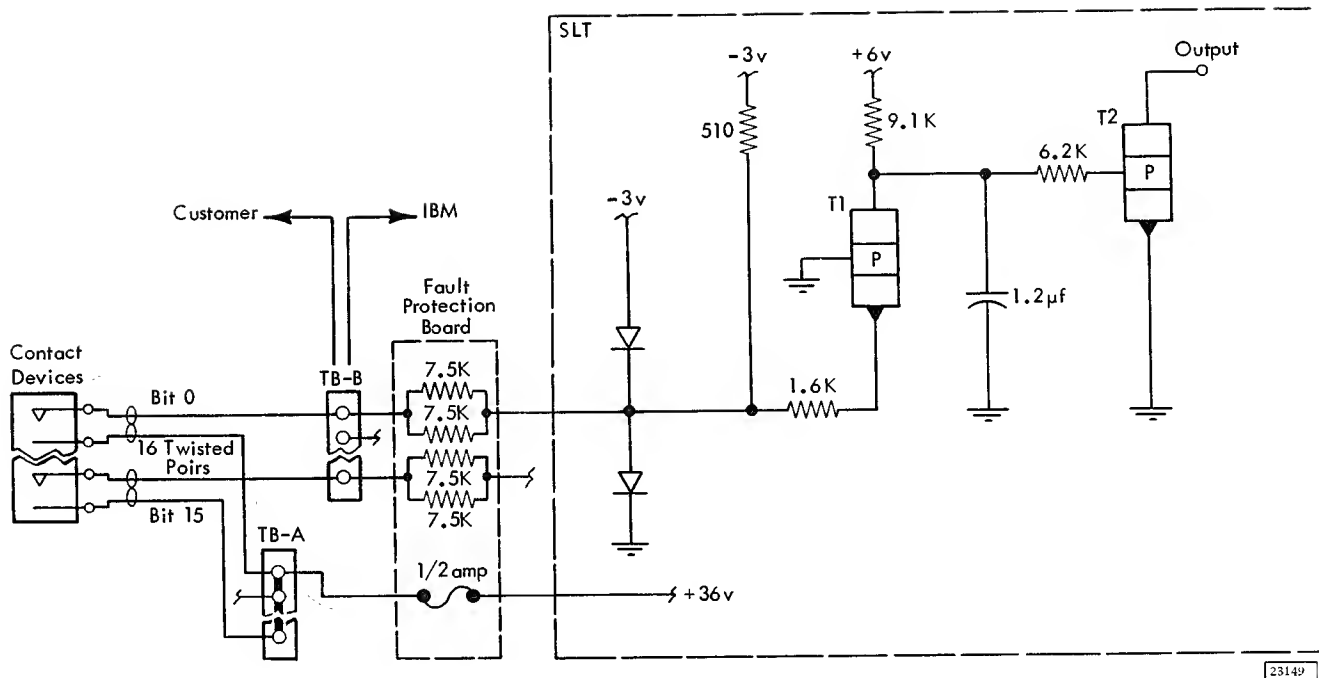

Figure 20. Process Interrupt and Digital Input, Contact Closure Schematic (simplified)
14. Circuit Description: See Figure 20.
14. **Circuit Description:** See Figure 20.